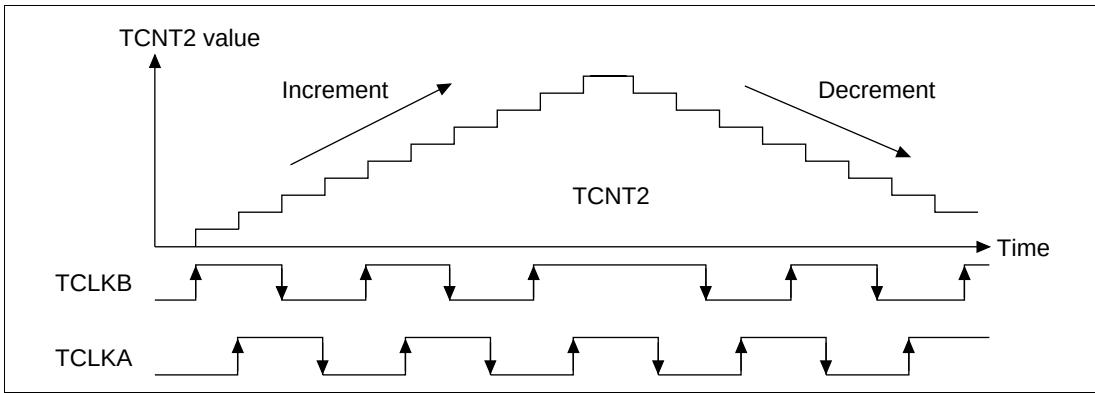

**Figure 10.43 Phase Counting Mode Operation**
**Phase Counting Operation:** Figure 10.43 shows an example of phase counting mode operation. Table 10.16 lists the up-counting and down-counting conditions for TCNT2. The ITU counts on both rising and falling edges of TCLKA and TCLKB. The phase differential and overlap of TCLKA and TCLKB must be 1.5 cycles or more and the pulse width must be 2.5 cycles or more.